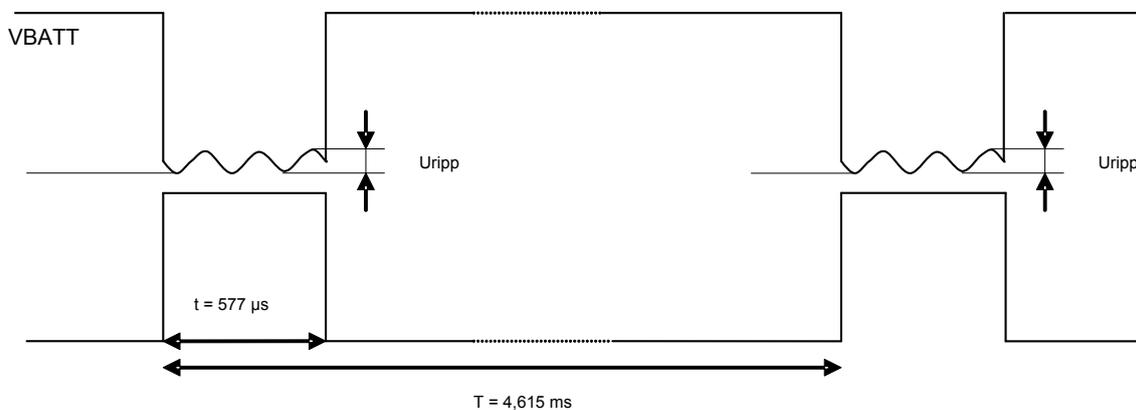

Figure 2. Power Supply During Burst Emission
- A GSM/GPRS class 2 terminal emits 577 $\mu\text{s}$  radio bursts every 4.615ms. (See Figure 2 Power Supply During Burst Emission below.)